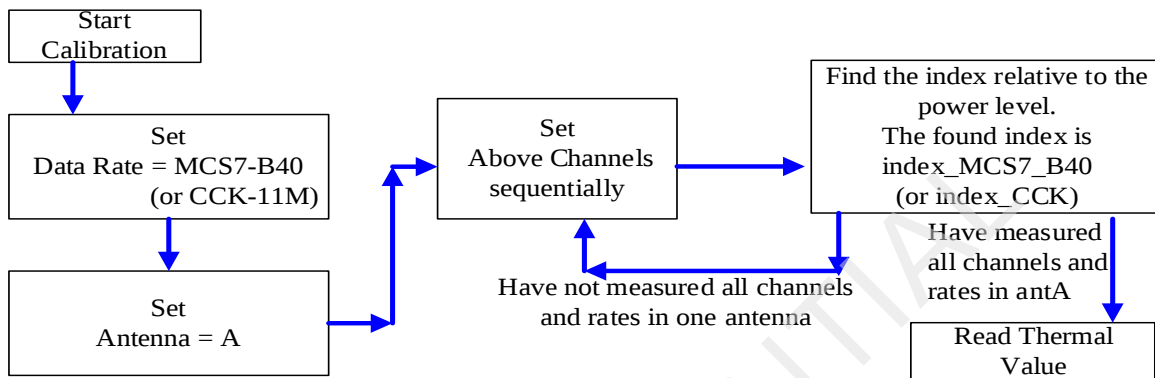

Figure 6: Tx calibration flow
Step 3 : Measure Tx power by instrument and follow figure 6 to find power index.